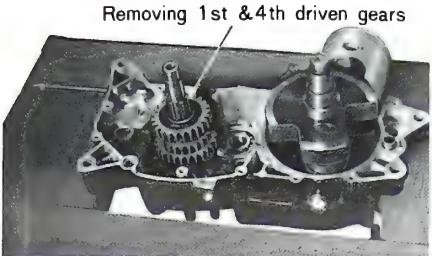

Fig. 5-3-1 Assembling drive shaft
- 1) Fit the crankshaft ass'y and the drive shaft with the second, third and fifth speed gears having been assembled beforehand to the left crankcase. (Fig 5-3-1)